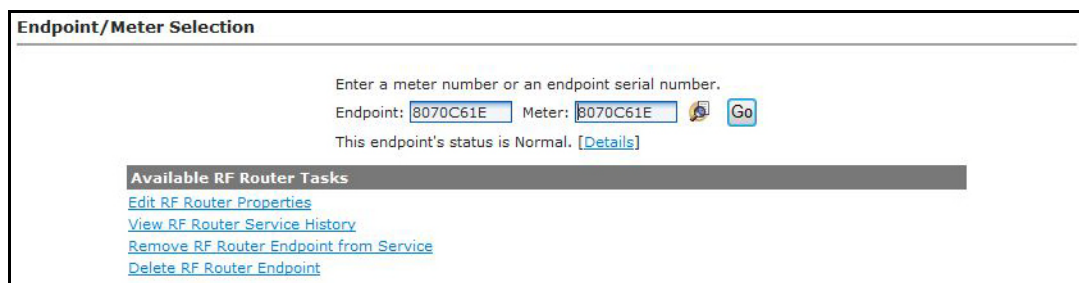

Figure 4 - 7. Endpoint/Meter Selection
- Click the **Details** link. The Gridstream RF Endpoint Information Screen will open for the Extender, shown in Figure 4 - 8